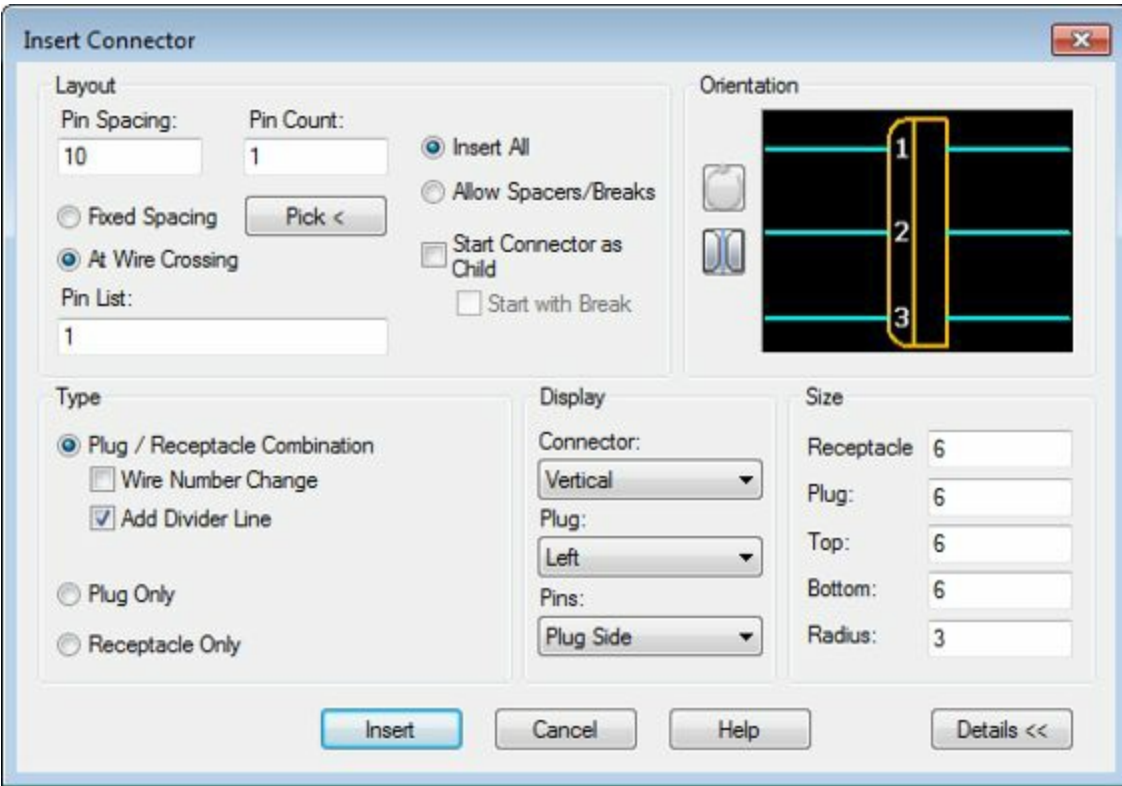

Figure-13. Insert Connector dialog box
- Click on the **Insert Connector** tool from the **Insert Connectors** drop-down. The **Insert Connector** dialog box will be displayed; refer to Figure-13.